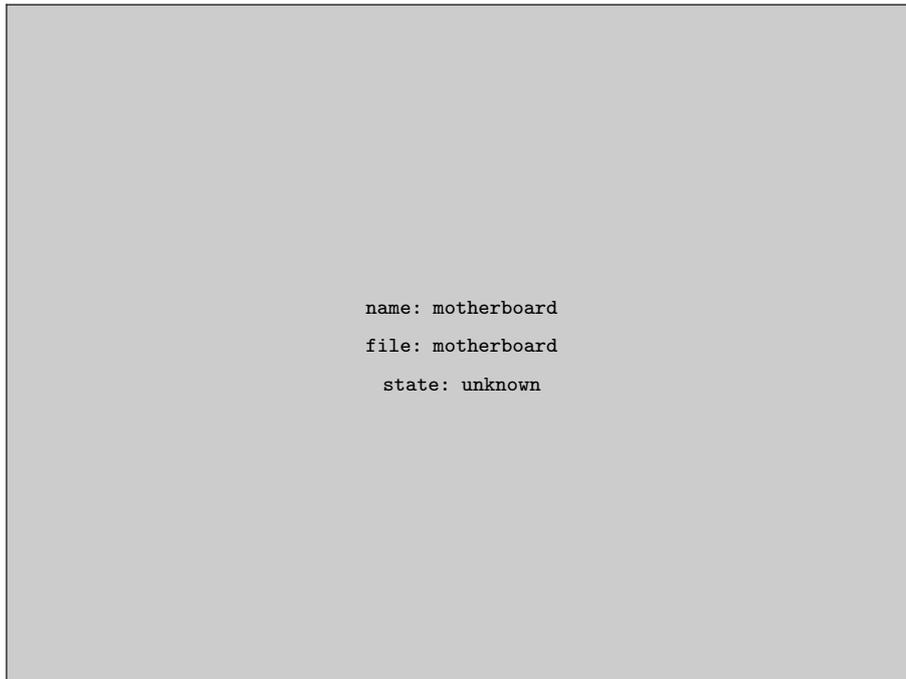

Figure 1.7 Motherboard of the
The cable contains a pair of twisted signal wires (1, 2) and a cable shield (3) (see Section 1.3.2 and Figure 1.7). Standard delivery is 10 meters (33 feet) of cable. The maximum length of an interconnecting cable is 200 m (660 ft). The signal wires (1, 2) are interchangeable (non-polarized). The cable shield is connected to the protective earth at the Indicating transmitter.
Description of the terminals on the H1 interface card PR-10701 and on the Transmitter motherboard PR-10600 (Figure 1.7):
The primary AC power is supplied to the terminals marked **POWER** in the lower right hand corner of the transmitter motherboard (figure 1.7). The three terminals are marked 31, 32, and 33 (protective earth). The power terminal 33/ is directly connected to the exposed metal parts of the Indicating transmitter DTR. Wiring to the terminals shall be 1.5mm² minimum. The protective fuse in the building system shall comply with the local requirements.